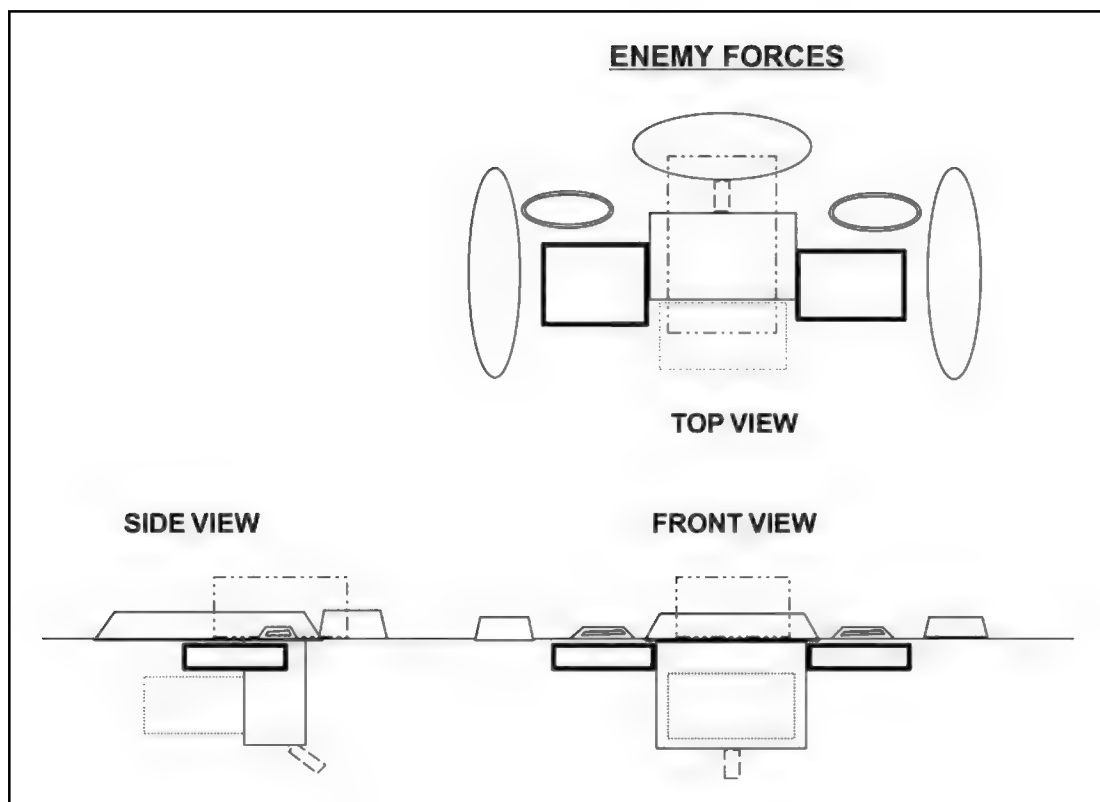

Figure 4-13. Completed deliberate fighting position.
b. **Views.** The three views of Javelin fighting positions are illustrated in Figure 4-13 but refer to legend above.